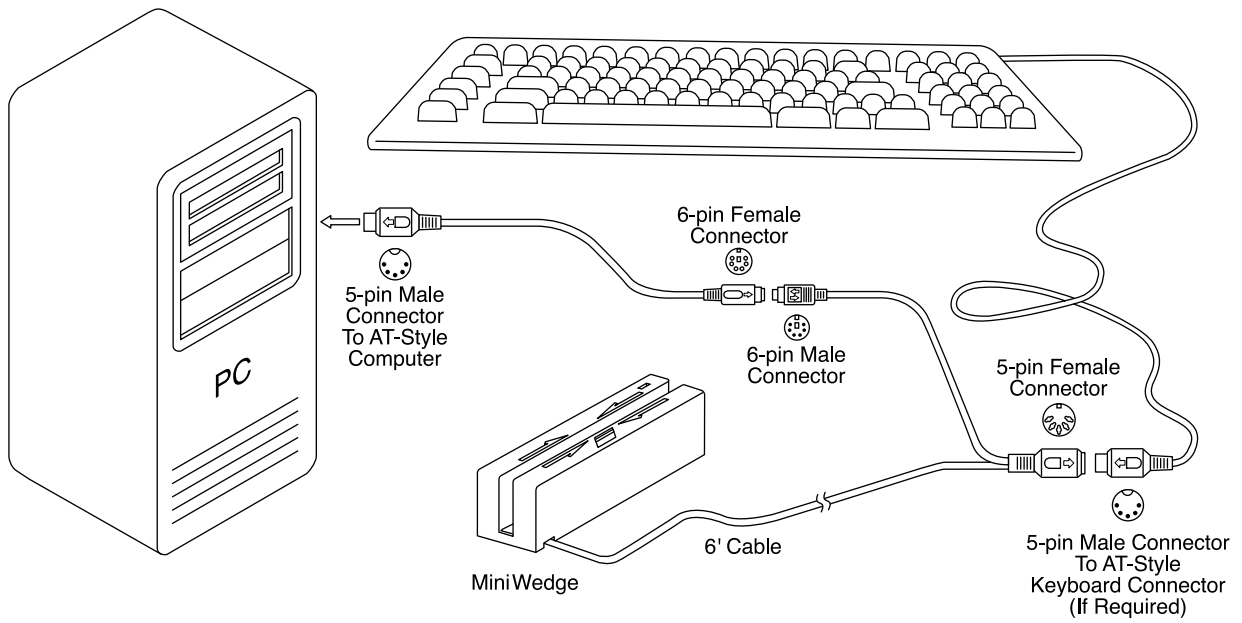
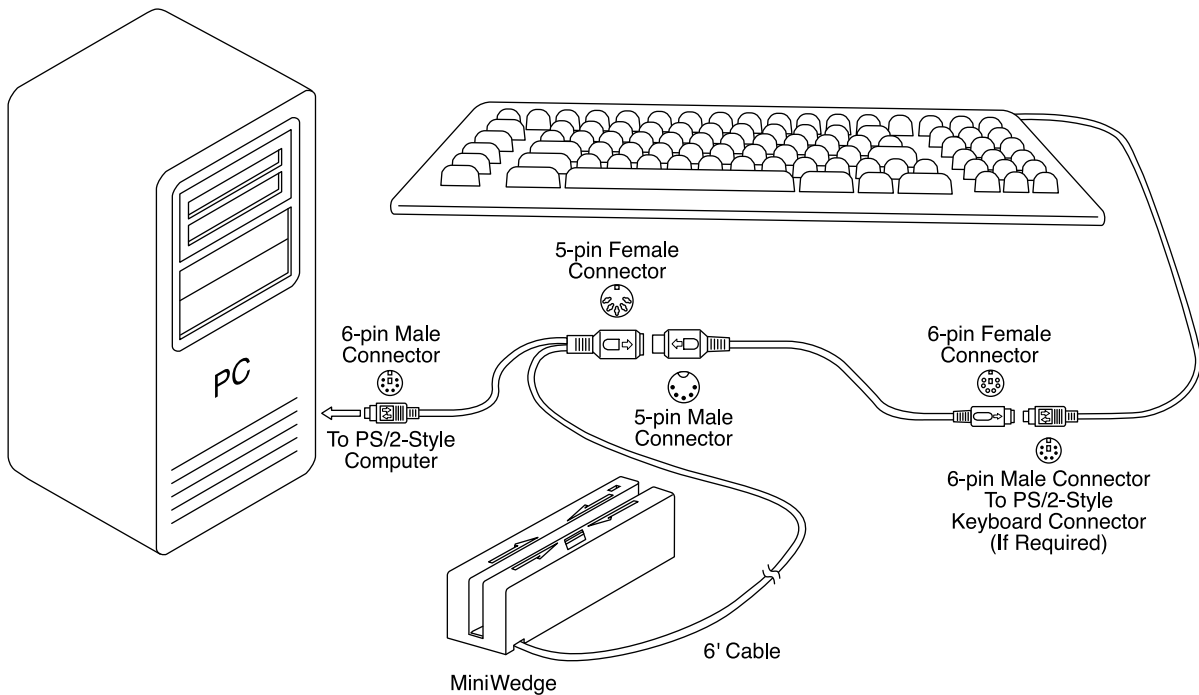

Figure 2-2. AT-style Configuration – Old Style Cable
Figure 2-3. PS/2-style Configuration – Old Style Cable
2. Connect the cables as indicated in Figure 2-2, Figure 2-3, or Figure 2-4. One end of the Y cable plugs into the PC. The other end plugs into the keyboard; however, if a keyboard is not required, leave this end unconnected. Pin lists with illustrations for the 5-pin and 6-pin connectors are provided in Tables 2-1 and 2-2.